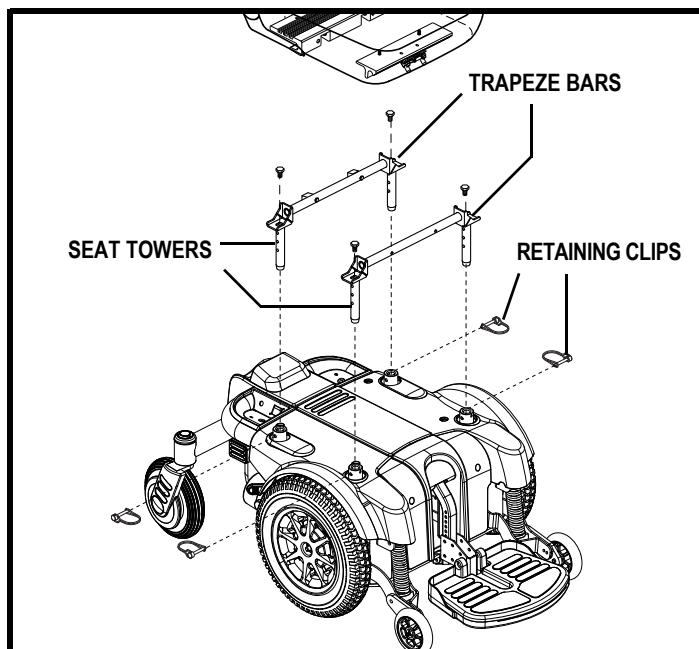

Figure 15. Seat Height Adjustment
6. Remove the retaining clip from each of the four seat towers. See figure 15.